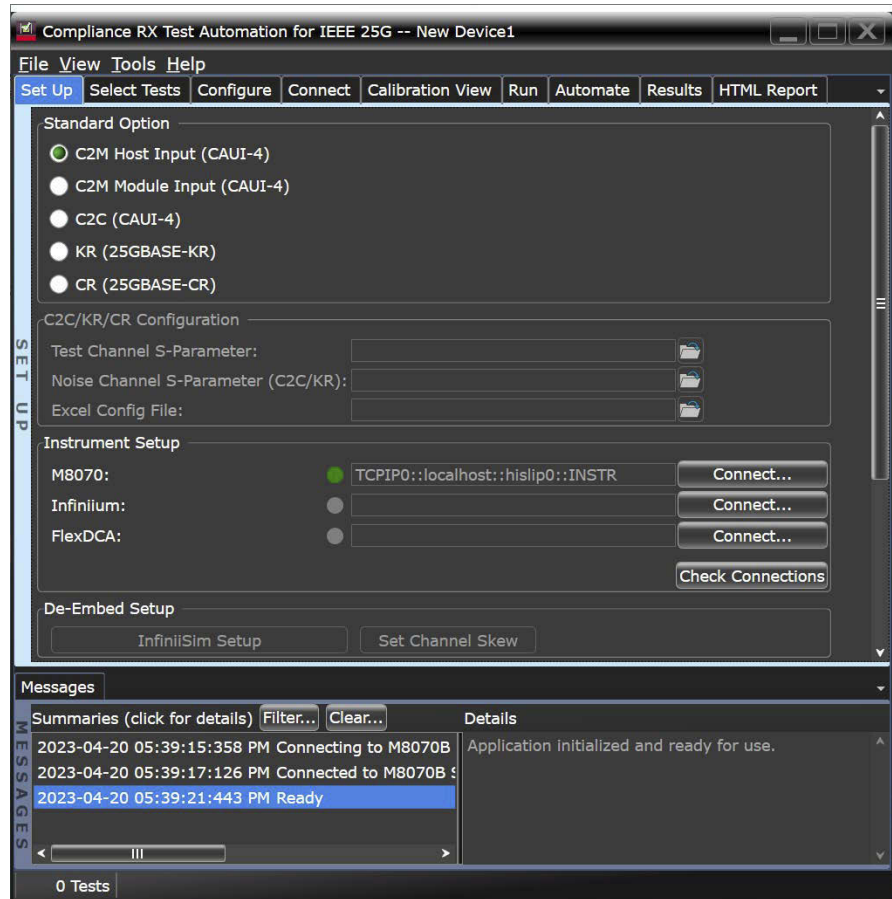

Figure 11 Set Up tab of the Compliance Rx Test Automation for IEEE 25G, default view
- The Compliance Rx Test Automation for IEEE 25G appears with the **Set Up** tab as default (see Figure 11 on page 37).
- 1 Under the **Set Up** tab (see Figure 11):